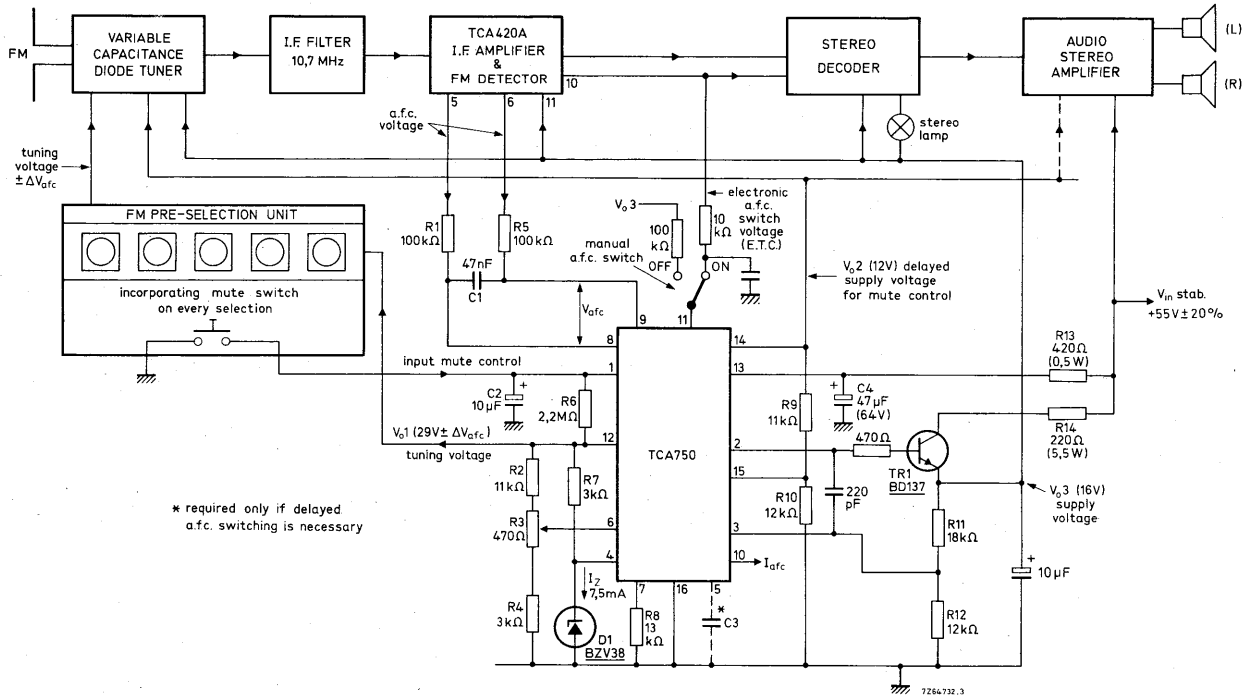

Fig. 8 Hi-fi radio receiver with electronic tuning using TCA750.
4. If a higher level is required from the output of stabilizer 1, the reference diode supply may be obtained from the emitter of a power transistor connected to the output from stabilizer 3 (see Fig. 8). In this case, the current available from stabilizer 1 is increased to 12,5 mA (bleeder current I_{RA1} = 2 mA).